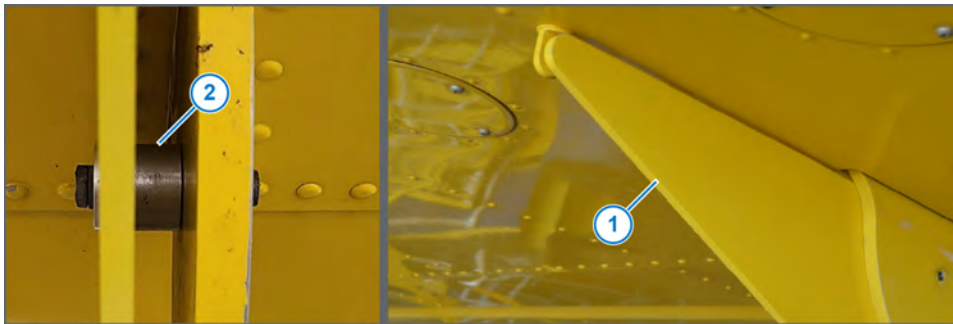

Figure 14: Boom Hangers Installation
- 29.** Start at the outside of the aircraft, on each side, to install the boom hangers (Figure 14, Item 1) using the existing washers and/or spacers you kept when removing the existing boom hangers from the aircraft.
On the 602 and 802 aircraft, the bushing kit (Figure 14, Item 2) will replace the spacer that was installed when the hanger was removed.